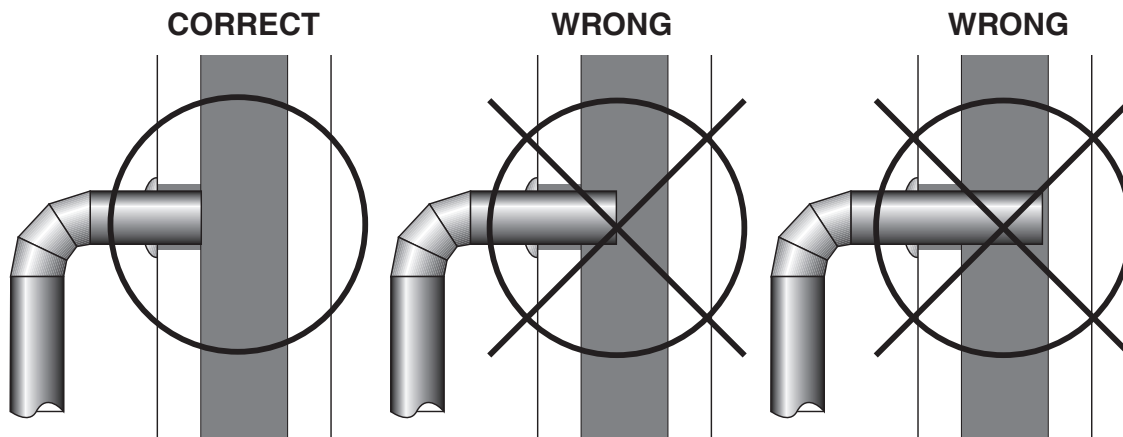

Fig. 10 – Stovepipe/Flue Connections
4. The pipe cannot extend into the chimney flue (figure 10).
5. Secure pipe/elbow sections with a minimum of three (3) equally spaced sheet metal screws at each joint and at the stove collar to make the pipe rigid.
6. It is recommended that no more than two (2) 90° bends be used in the stovepipe installation. The use of more than two 90° bends may decrease the amount of draw and possibly cause smoke spillage. Where possible, use only corrugated (nonadjustable) elbows. These provide a better seal.
2. Install a fire clay (5/8” minimum thickness) thimble. Make sure the thimble is flush with the inner surface of the chimney liner and does not protrude into the flue (see figure 10).
4. Install the stovepipe into the thimble as far as possible without extending past the flue lining (see figures 10 & 11).